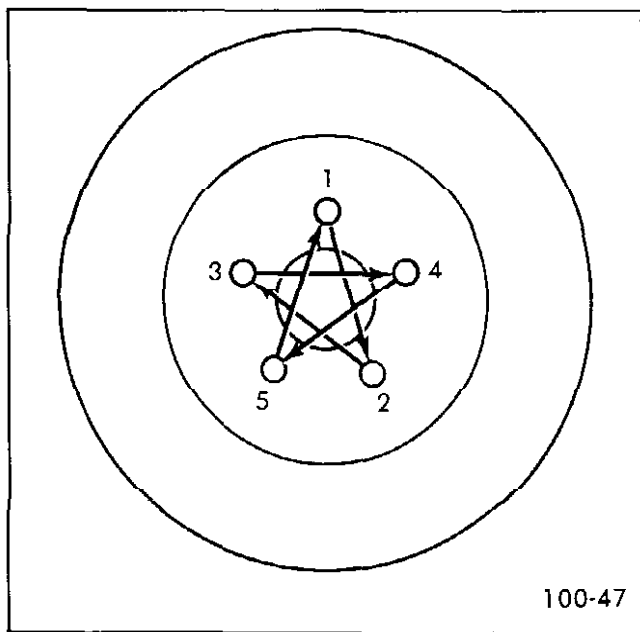

Figure 100-8 Wheel Nut Tightening Sequence
2. Tighten lug nuts uniformly to proper torque of 70 ft lbs., using criss-cross pattern. See Figure 100-8.